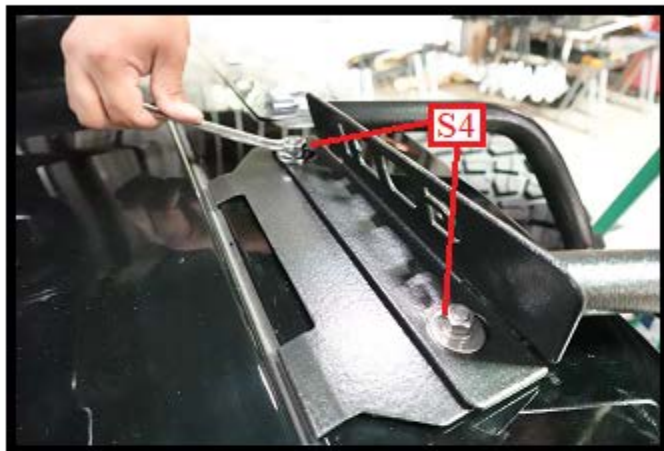

Fig. 25
As shown in Fig. 25, remove one 5/16-18 nut, lock washer and flat washer (S4) and thread onto each threaded stud of hanger plate (C). Fully tighten each assembly (S4) completely but do not over tighten. Remove all masking taper markers.